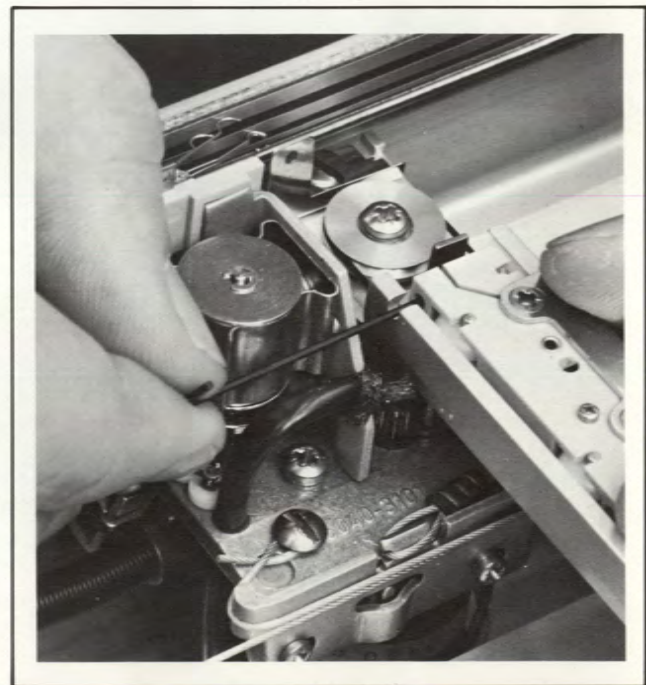

FIGURE 3-16. PEN CARRIAGE ADJUSTMENT
- a. Pen carriage rolls in carriage arm on four plastic rollers. To adjust rollers, remove rear hood, rotate black tab at upper end of scale 90° counterclockwise, pull pen holder back, and open scale. Move pen carriage to bottom of arm so that 2-56 setscrew in carriage is aligned with notch in side of arm (see Figure 3-16). Adjust setscrew to minimize side-play of carriage within arm.